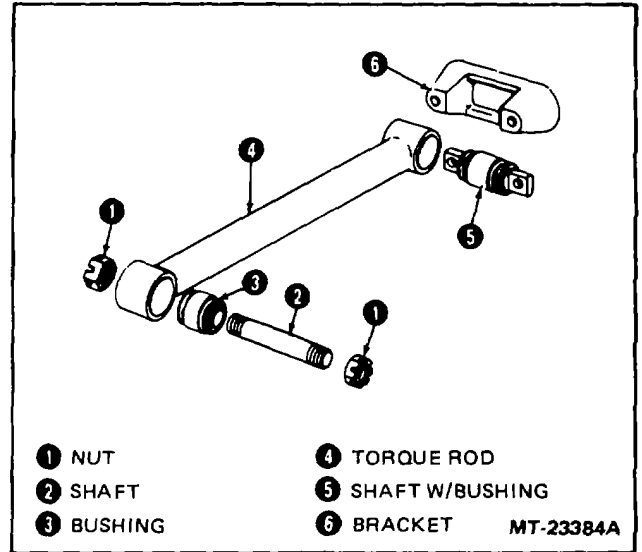

Figure 16 - Torque Rod
6. Install torque rods to axle brackets and frame brackets. When tightening, rap bracket with hammer to drive taper of torque rod stud into bracket. I ends of torque rods have straddle mount ends (: holes) as shown in Figure 16, use spacers between the bracket and crossmember for proper axle setting. Do not exceed 12.7mm (1/2") to obtain major adjustment. Tighten shaft nuts to specified torque